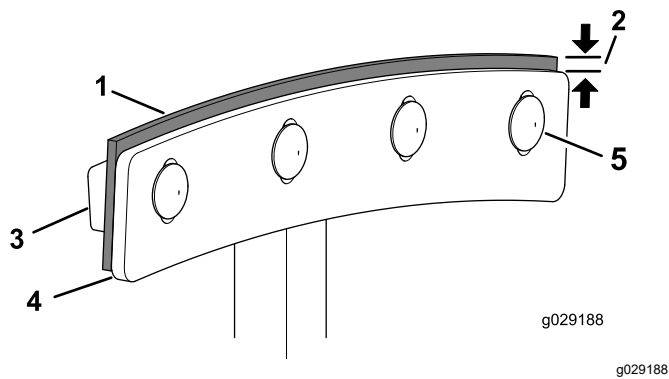

Figure 69
4. Loosen the carriage bolts and flanged locknuts that secure the paddle blade and wiper to the paddle (Figure 69).